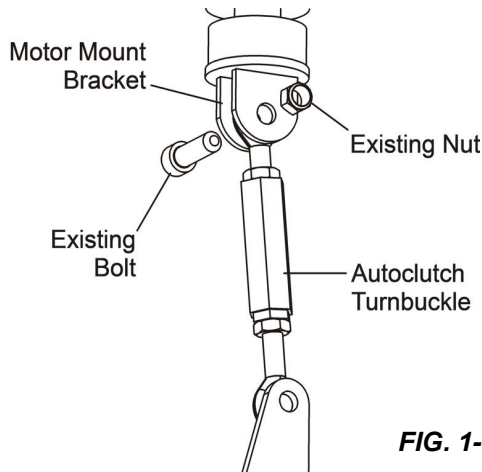

FIG. 1-3
6. Position the turnbuckle so the end with two hexes is on the bottom. **See Fig. 1-3.**